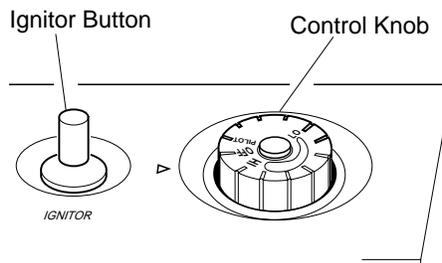

Figure 16 - Control Knob In The OFF Position
4. Wait five (5) minutes to clear out any gas. Then smell for gas, including near the floor. If you smell gas, STOP! Follow "B" in the safety information, column 3, page 11. If you don't smell gas, go to the next step.
5. Turn control knob counterclockwise to the PILOT position. Press in control knob for five (5) seconds (see Figure 16).